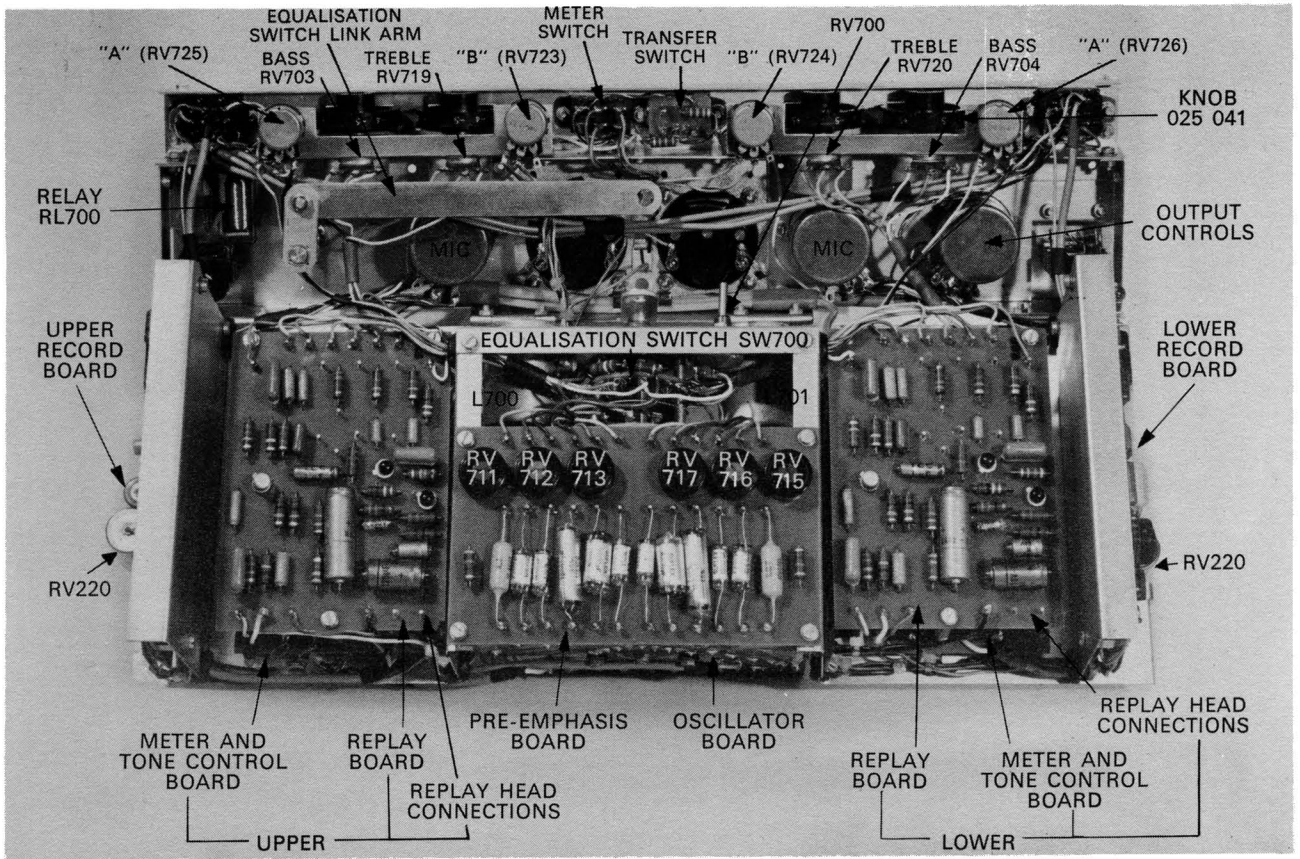
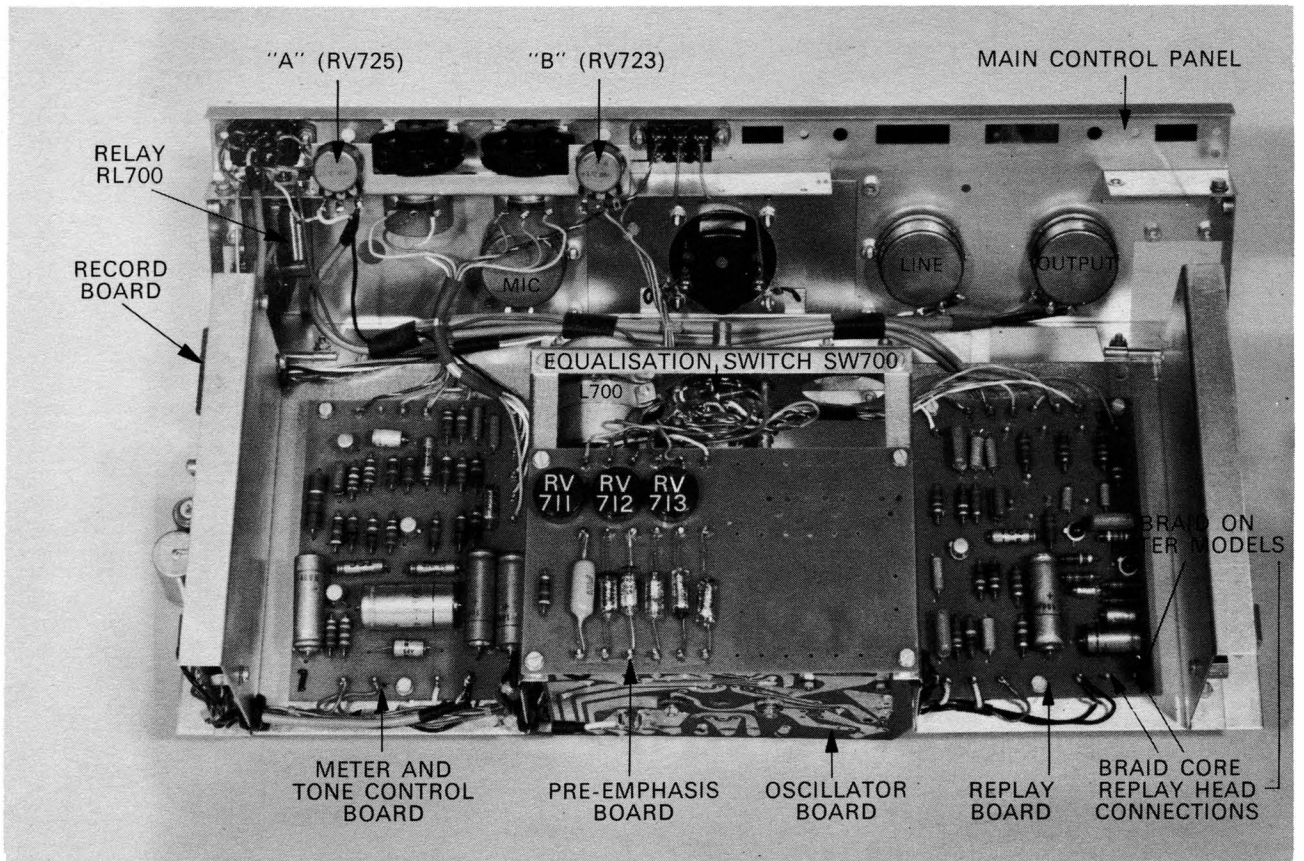

FIG. 2. AMPLIFIER—STEREO, FRONT VIEW
FIG. 4. AMPLIFIER—MONO, FRONT VIEW
Removal/replacement of amplifier assembly (Figs. 2 - 5)
- (a) Stereo models (Figs. 2 and 20). On the upper replay board the lead is marked with a red sleeve, and on the lower replay board the lead is marked with a white sleeve.
- (b) Mono models (Figs. 4 and 20). The lead to the board is marked with a red sleeve.
- (a) Stereo models (Figs. 2 and 19). On the upper record board the lead is marked with a red sleeve and on the lower record board the lead is marked with a black sleeve.
- (b) Mono models (Figs. 4 and 19). The lead to the board is marked with a red sleeve.
Removal/replacement of main panel controls (Figs. 2, 3 and 4)
- (ii) Remove the *Equalisation* switch link, by locating and then removing the bolt connecting the link arm to the switch spindle extension (see Fig. 2) *Equalisation* switch should be in "*Medium*" position.
Removal/replacement of record and replay boards and components (Figs. 2 and 4)
- 311 Locate the required board on Fig. 4 for mono models and Fig. 2 for stereo models, and proceed as follows:
Removal/replacement of meter & tone control boards and components on stereo models (Fig. 2)
Removal/replacement of meter & tone control board and components on mono models (Figs. 4 and 21)
Removal/replacement of equalisation board (Figs. 2 and 4)
- (i) Unsolder the leads to the earth tags at the bottom of the equalisation board (Fig. 2 or 4).
- (a) On mono models (Fig. 4) the lead with a red sleeve connected to the two bottom right-hand pins on the board.